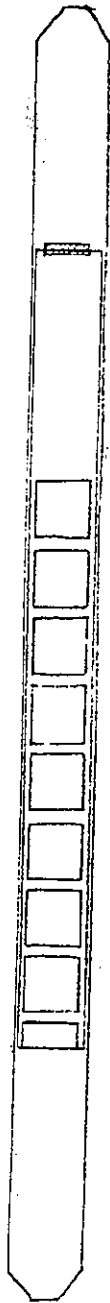

fig. 1
**Malfunction:** Automatic stop for the first frame functions belatedly, resulting in failure to register the specified number of frames on the film (See Fig. 1).